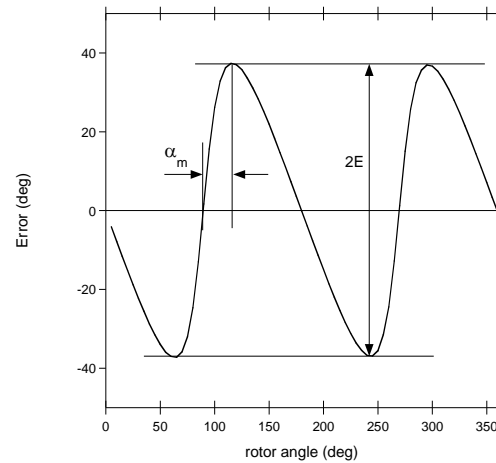

Figure 18: Error Curve in Side-Shaft Configuration with BCT = 0
The ratio k depends on the magnet geometry and distance to the sensor. Having a k ratio different than 1 results in the sensor output response not being linear with respect to the mechanical angle. Note that the error curve has the shape of a double sinewave (see Figure 18). E is the amplitude of this error.
It is possible to deduce the k ratio from the error curve obtained with the default BCT setting (BCT = 0). For this purpose, rotate the magnet over one revolution and record the MagAlpha output. Then plot the error curve (the MagAlpha output minus the real mechanical position vs. the real mechanical position) and extract two parameters: the maximum error E and the position of this maximum with respect to a zero crossing a_m (see Figure 18). k can be calculated with Equation (7):